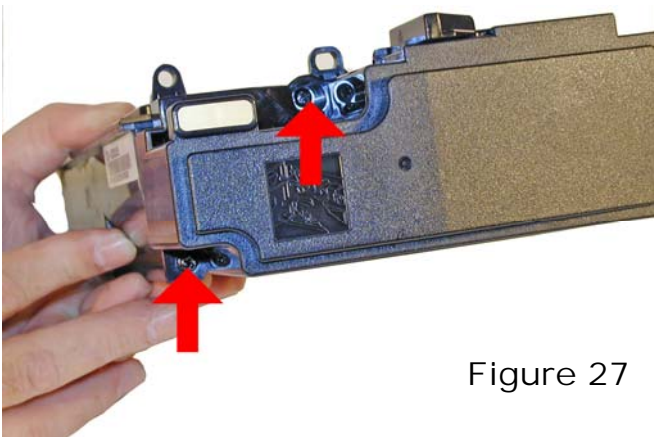

Figure 27
24) Install the waste chamber and two screws. The waste chamber does not fit tight, even when the screws are snug. This is to allow it to fit to the waste section of the drum unit better. See **Figure 27**